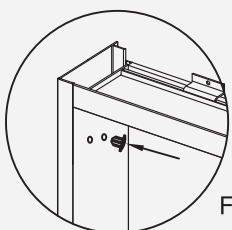
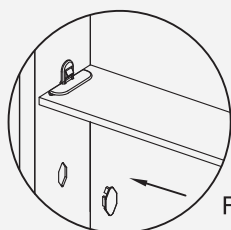

Fig 18
Fig 19
**3.** Fill the remaining holes with hole plugs ③ (Fig 18). Fill the rest of the shelf clip holes with decorative covers ⑭ (Fig 19).